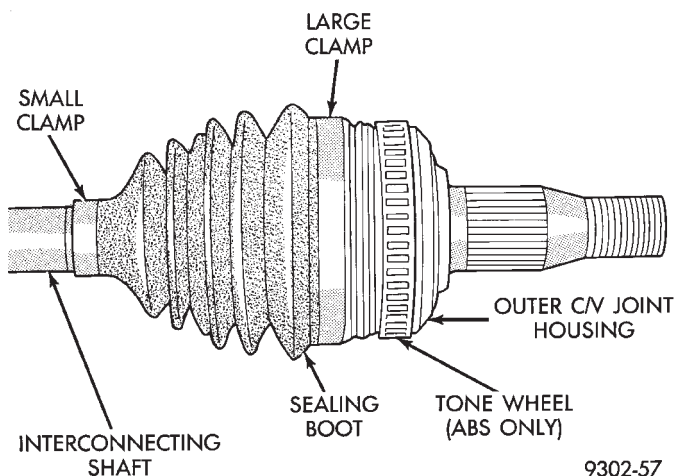

Fig. 33 Outer C/V Joint Seal Boot Clamps
(1) Remove driveshaft assembly requiring boot replacement from vehicle. See Servicing Driveshaft in this section of the service manual for the required driveshaft removal procedure.
(2) Remove large boot clamp, retaining C/V joint sealing boot, to C/V joint housing (Fig. 33) and discard. Remove small clamp which retains outer C/V joint sealing boot to interconnecting shaft and discard. Remove sealing boot from outer C/V joint housing and slide it down interconnecting shaft.